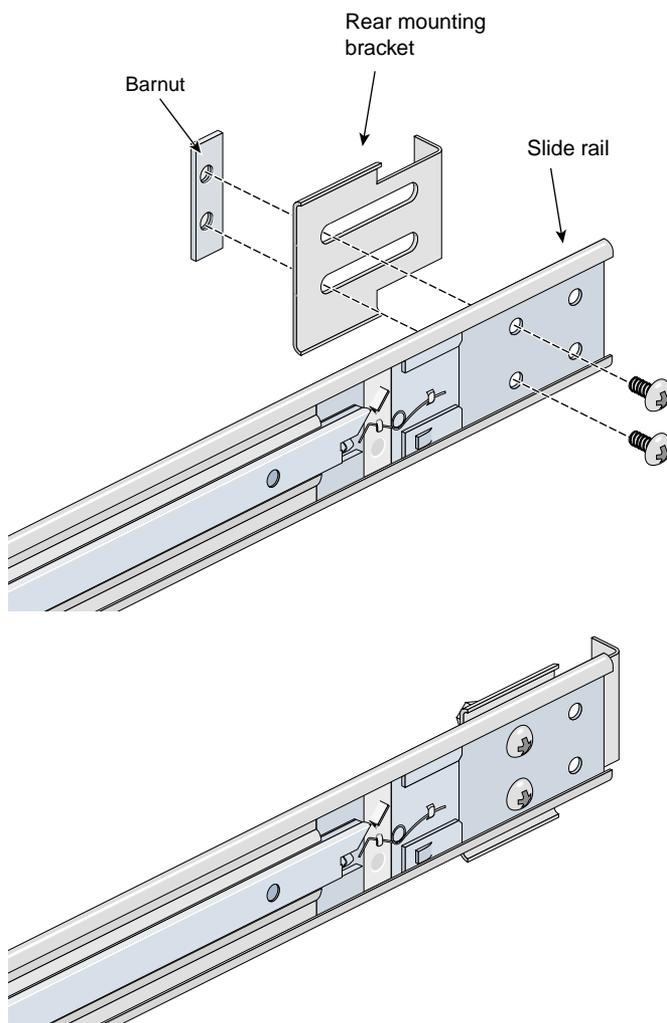

Figure 1-13 Attaching the Rear Mounting Bracket to the Slide Rail
4. Place one of the mounting brackets on the back of the slide rail, as shown in Figure 1-13. Adjust the position of the mounting bracket on the slide rail according to the depth of the rack.
- Secure the mounting bracket to the slide rail by inserting two 10-32 x 1/2-in. screws through the assembly and into the barnut, as shown in Figure 1-13.